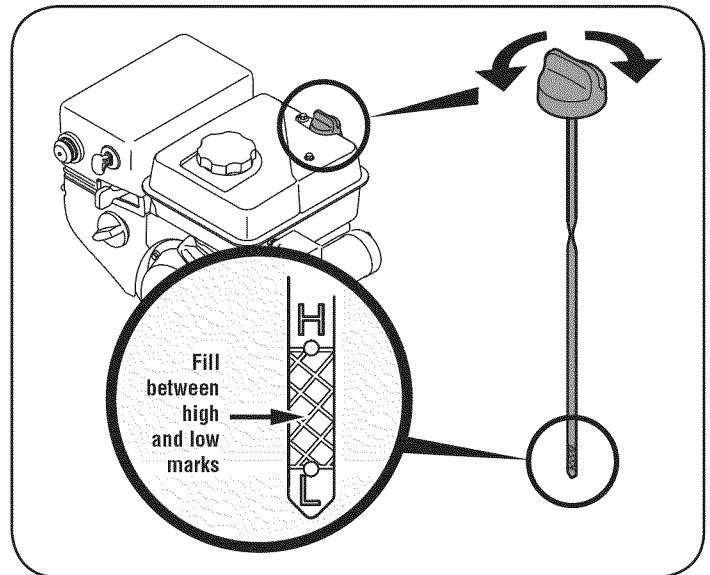

Figure 7
1. Remove the oil filler cap/dipstick and wipe the dipstick clean. See Figure 7.
3. Remove the oil filler cap/dipstick. If the level is low, slowly add oil until oil level registers between high (H) and low (L), Figure 7. Refer to the Engine Maintenance section for correct oil viscosity and engine oil capacity.